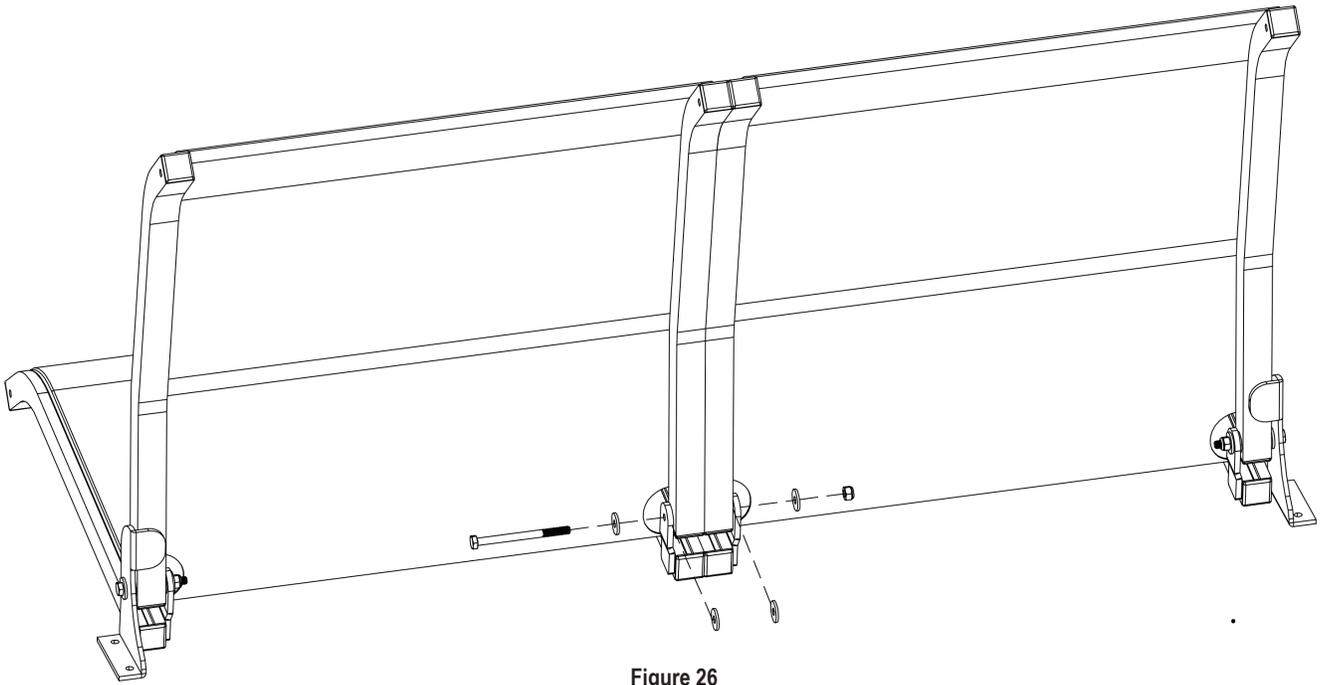

Figure 26
STEP 11: This is the first step of assembly of the seat. *You must follow these instructions exactly* to avoid problems with assembly. First assemble the center seat hinge using one (1) $\frac{1}{4}$ " x 3-1/4" bolt, four (4) washers and two (2) nuts. Place washers between the hinge and seat frame, under the head of the bolt and under the nut as shown in Figure 26. You can now tighten this nut.